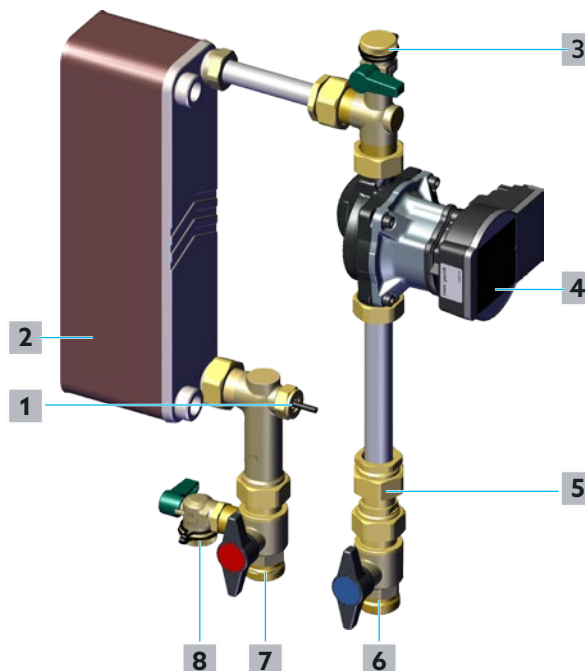

Fig. 18: Filling and venting of the storage cylinder circuit
- 1 Slowly open the shutoff ball valve for storage cylinder circuit supply (position 7 in Fig. 18 on page 23 and position 2 in Fig. 2 on page 11).
- 2 Unscrew the cap of the fill and drain ball valve for storage cylinder circuit return (position 3 in Fig. 18 on page 23 and position 9 in Fig. 2 on page 11).
- 7 Slowly open the shutoff ball valve for storage cylinder circuit return (position 6 in Fig. 18 on page 23 and position 9 in Fig. 2 on page 11).